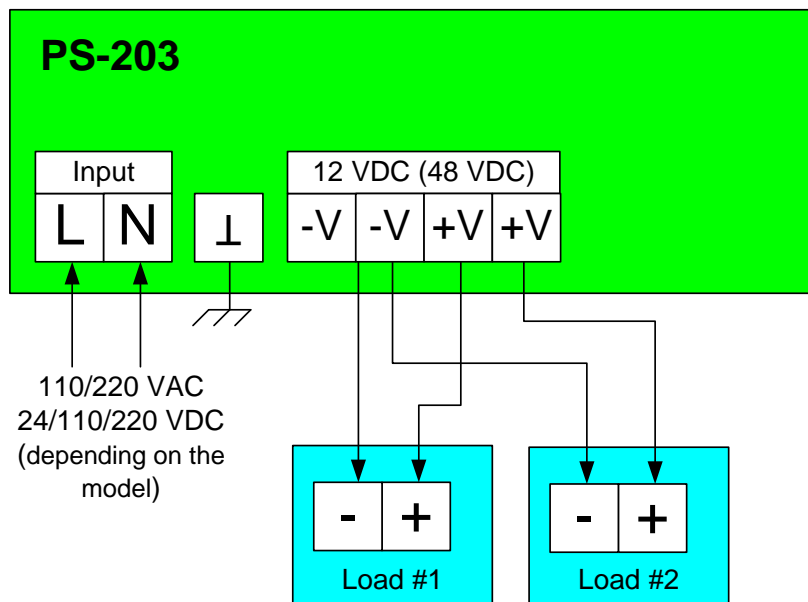

Fig. 2. PS-203 connection diagram
2) Connect cables from external devices and power supplies to the PS terminals as per their markings (fig. 2).